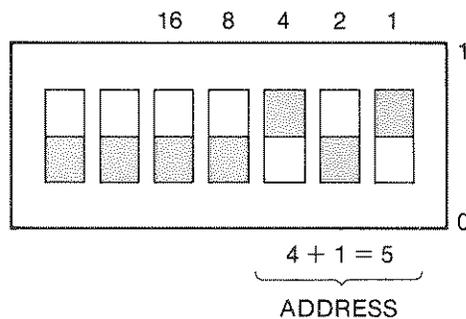

Fig. 7.1. Plotter address set to five.
2. Set the plotter to address five (see Figure 7.1). If you cannot locate the address switch on the plotter, refer to the plotter's operation manual. If you want to use a different plotter address for remote operation, be sure to modify the examples accordingly. Remember, to generate plots from the spectrum analyzer front panel, you must reset the address to five.